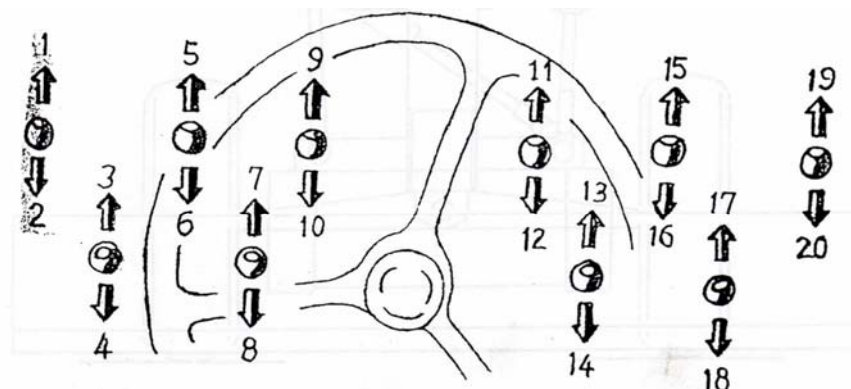

Fig. 19
- If turn from horizontal position 3 to 1 or 2, operate according to the directions 2, 14 and 19 shown in Fig. 19 to retract swing cylinders completely;
- If turn from horizontal position 3 to 4 or 6, operate according to the directions 1, 13 and 20 shown in Fig. 19 to extend swing cylinders completely;